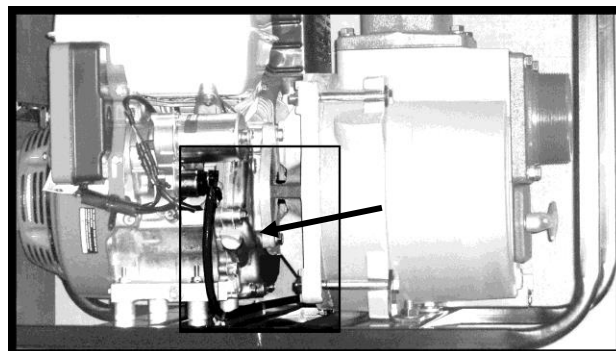

Figure 1 – Battery Cable
3. Refer to engine manual for proper wiring instructions. Be sure to route and secure battery cable safely UNDER pump where it will not be pinched or come in contact with hot engine exhaust or muffler (see Figure 1)